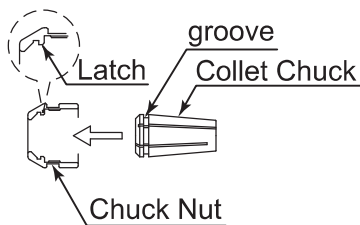
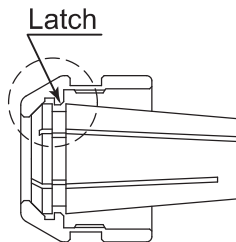
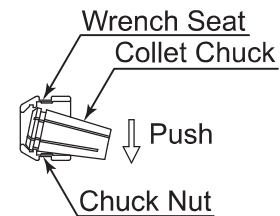
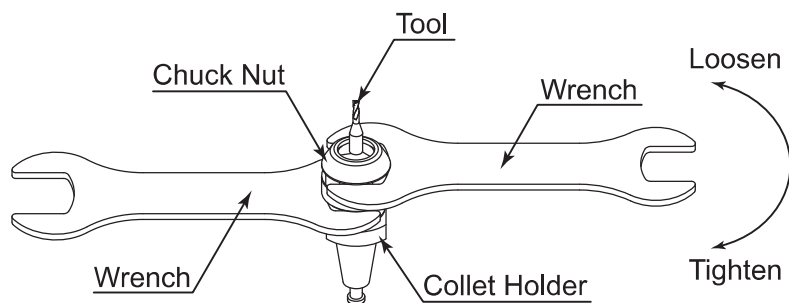

Fig 3
Fig 4
Fig 5
Fig 7
- ① Attach the chuck to the chuck nut. Be sure to fully engage the latch inside the chuck nut to the groove on the collet chucks outer circumference area. (Fig. 3, Fig. 4) (Install the collet chuck in the chuck nut by positioning the collet chuck in the chuck nut and pressing down on flat surface. (Fig. 5))
- ③ Insert the tool in to the collet chuck and position the wrench on the collet holder. Position the wrench on the chuck nut, then tighten the chuck nut by turning clockwise. (Fig .7)
- ④ When removing the tool, set the wrench on the chuck nut and turn it counterclockwise to loosen the collet chuck and remove the tool. (The first turn will loosen the chuck nut, but the tool will not release and turning will become stiff. Keep turning through the stiffness and the collet chuck will open.)
- ⑤ When removing the collet chuck, the collet chuck and chuck nut are secured by a groove in the collet chuck and a flange in the chuck nut. To remove the collet chuck hold the chuck nut in one hand and push diagonally down on the collet chuck. The collet chuck should be released. (Fig. 5).